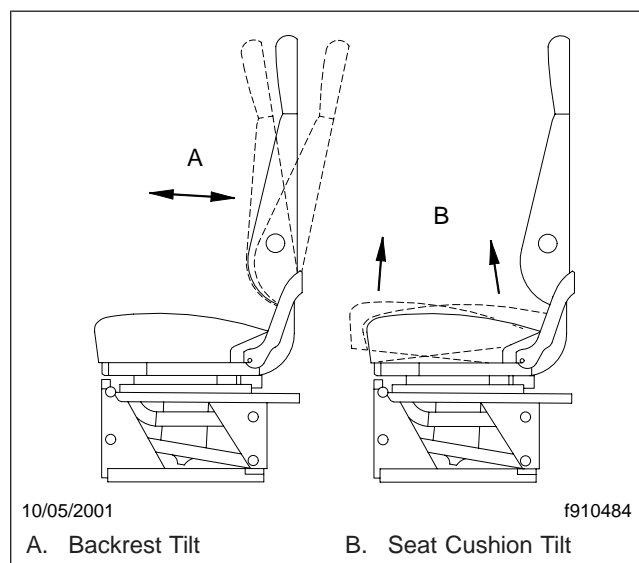

Fig. 5.8, Cushion Tilt Adjustments
5. Backrest Tilt: This adjustment pivots the backrest forward or backward (**Fig. 5.8**).
6. Seat Cushion Tilt: This adjustment raises or lowers the front and/or back of the seat (bottom) cushion. This adjustment is easier to perform when all weight is removed from the seat (**Fig. 5.8**).
7. Seat Tilt: When this adjustment is made, the seat assembly, both backrest and seat cushion, tilts forward or backward (**Fig. 5.8**).